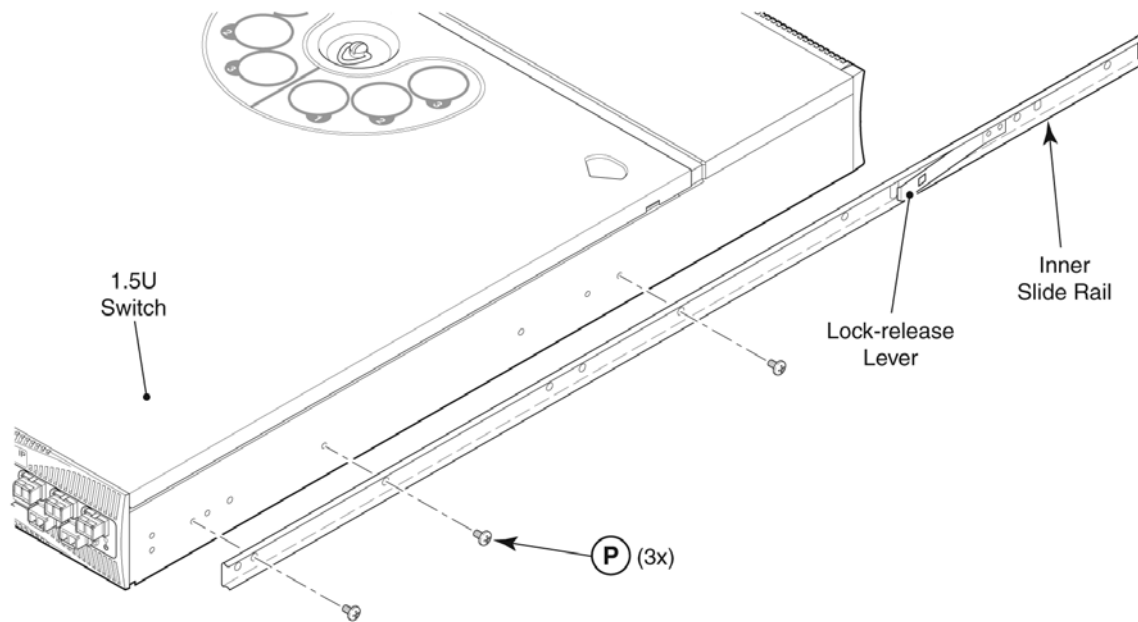

FIGURE 3 Installing inner rail to allow a switch to slide out of port side
2. Align the rail holes with the holes drilled in the side of the switch (Figure 3).
Hole pattern (Figure 3) is identical for all switches: 1U, 1.5U, and 2U.